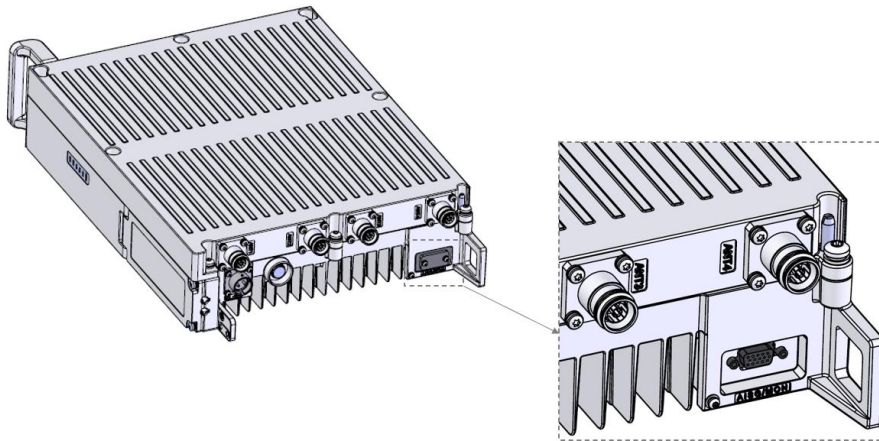

Figure 4-6 Loosen screws and open the AISG connector cap
Step 1: Loosen the cap screws and open the cap of the AISG connector as shown in Figure4-6.
Step 2: Install the ASIG Cable and tighten the screw as shown in Figure4-6.